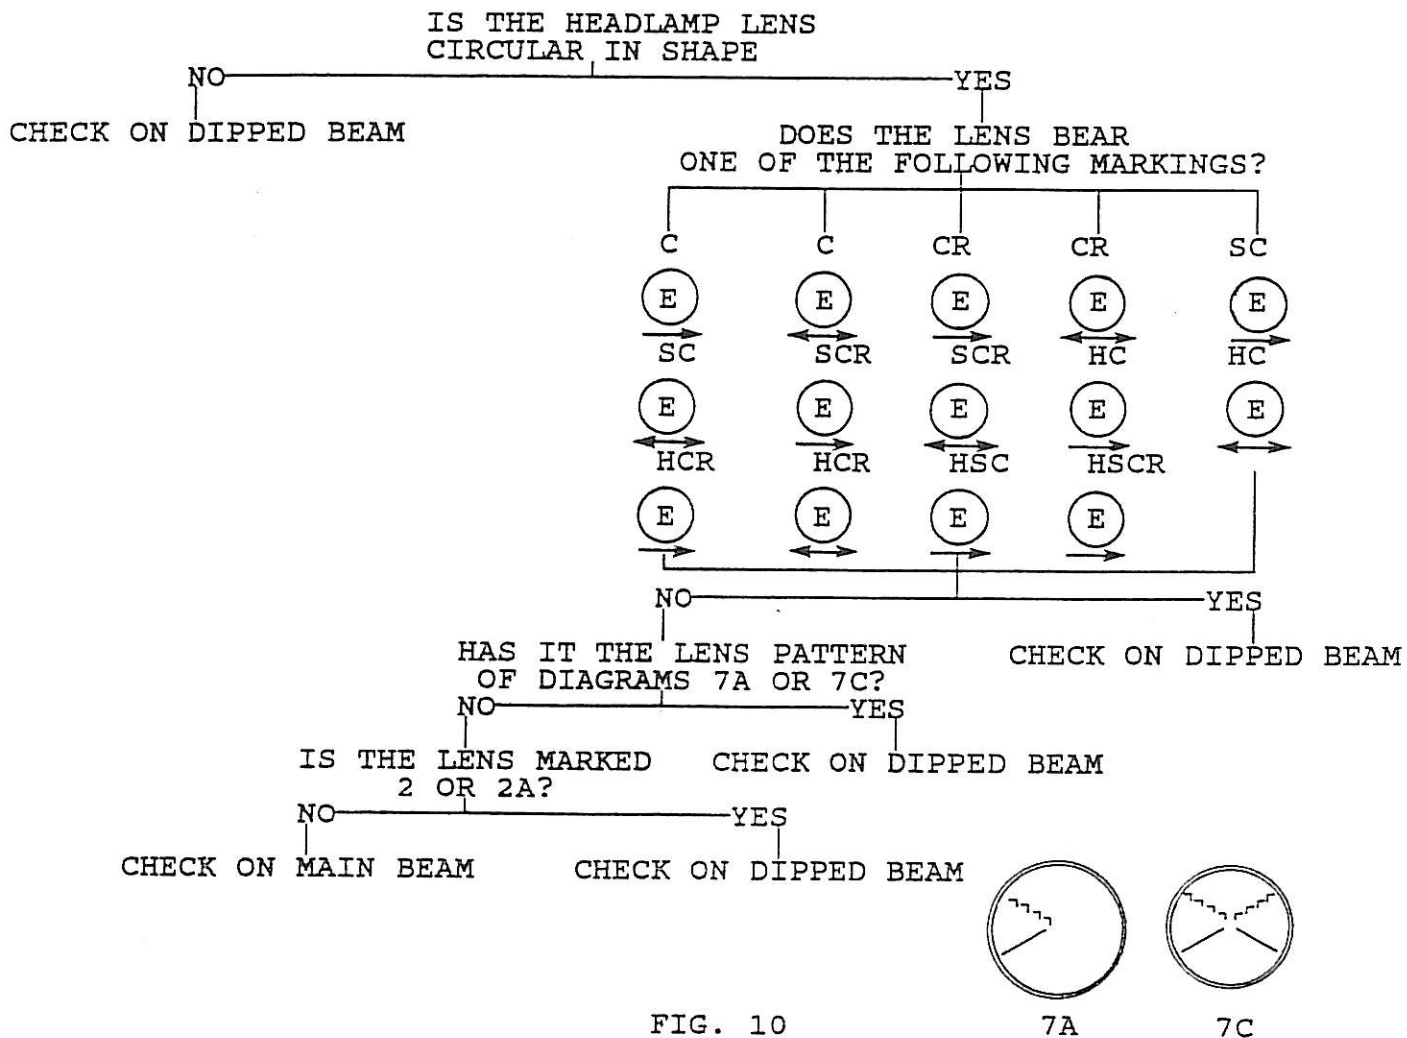

FIG. 10
- Fig. 10 illustrates a number of headlamp lens markings together with the appropriate testing mode.